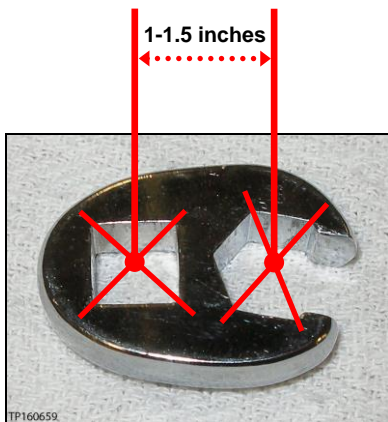

Figure 93
- The “crow’s foot” is measured from the center of the square hole to the center where the flare nut fits (see Figure 93).